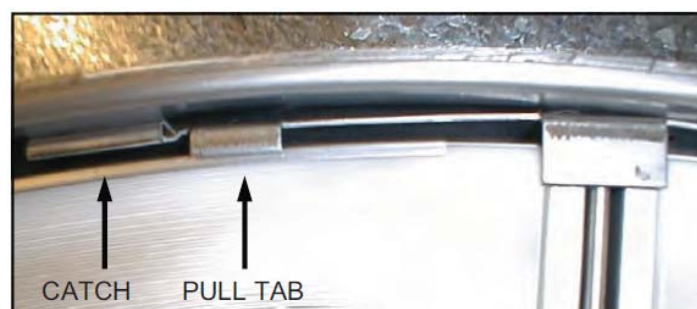

Figure 4
4. Close and latch segment retaining brackets to the position shown in Figure 4. Make certain the retaining bracket is fully engaged under the catch.
These wheels include the shaft and are secured to (2) wheel support beams by (2) flange bearings with locking collars. See Figure 4.
1. Loosen the two set screws on each of the two (2) wheel bearings. See Figure 4.
3. Remove pulley side wheel support beam with bearing, by removing (4) support beam screws.
5. When replacing wheel be certain to retighten (4) bearing set screws. Premature bearing failure could occur if neglected.